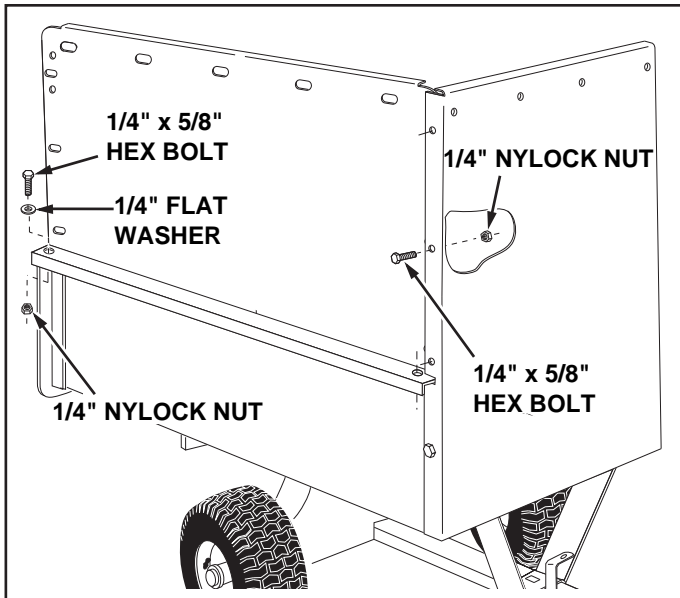

FIGURE 11
20. Place a side panel on top of the cart bed flange, inside the lip of the front panel. Fasten the side panel to the front panel using three 1/4" x 5/8" hex bolts and 1/4" nylock nuts. Fasten the side panel to the cart bed flange using two 1/4" x 5/8" hex bolts, 1/4" flat washers and 1/4" nylock nuts. **Tighten**. See figure 11. Repeat on other side.